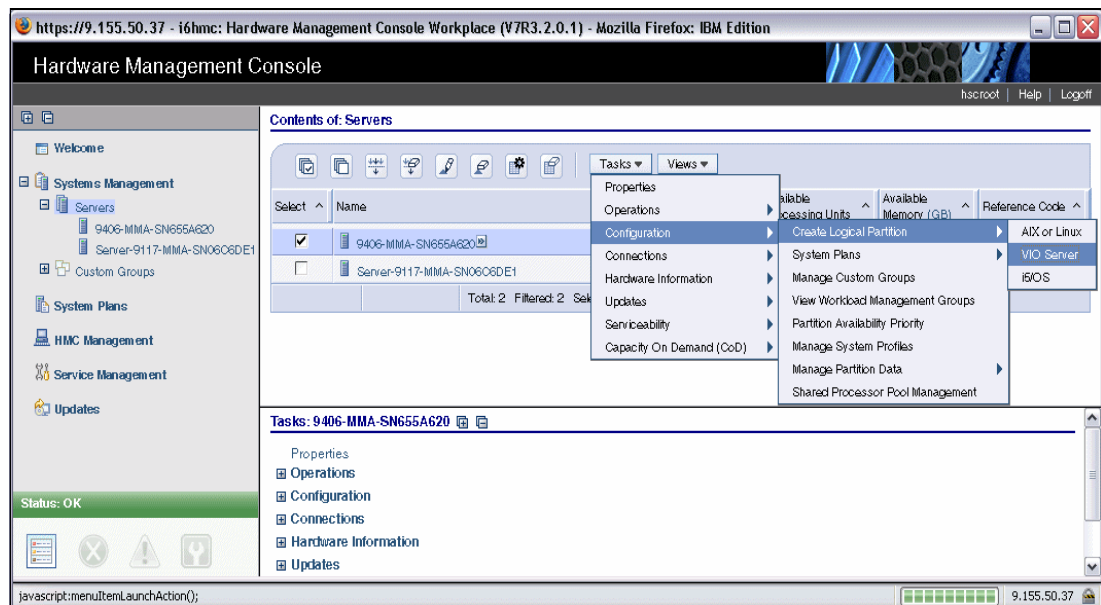

Figure 3-1 Creating the VIOS partition
2. Create the partition. In the left pane, select **Systems Management** → **Servers**. In the right pane, select the server to use for creating the VIOS partition. Then select **Tasks** → **Configuration** → **Create Logical Partition** → **VIO Server** (Figure 3-1).